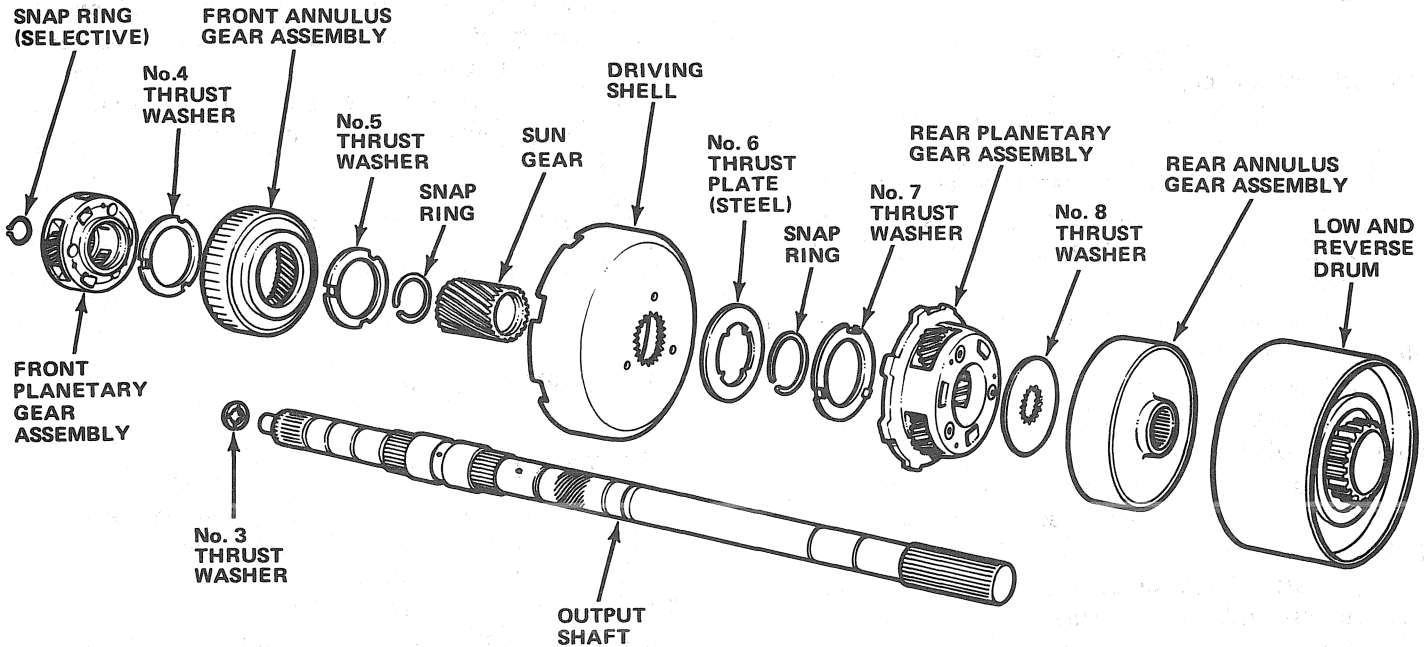

Fig. 2C-87 Planetary Gear Assembly—Model 727
- (1) Install rear annulus gear on output shaft (fig. 2C-87).
- (2) Apply thin coat of petroleum jelly on No. 8 thrust plate.
- (3) Position plate on output shaft and in rear annulus gear.